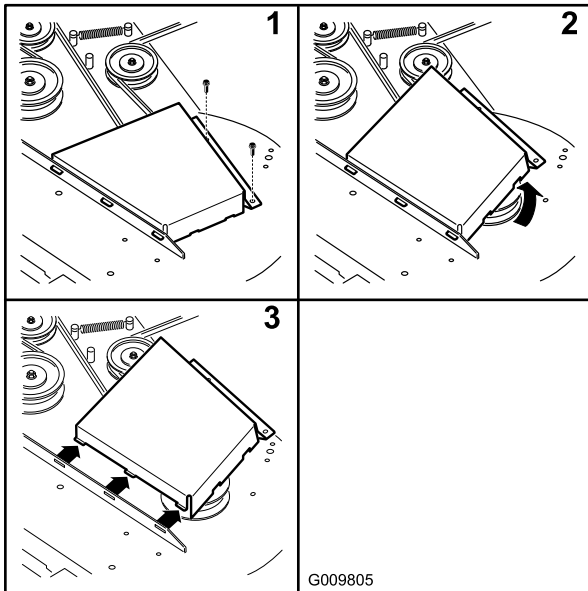

Figure 68
4. Remove the belt covers (Figure 68).